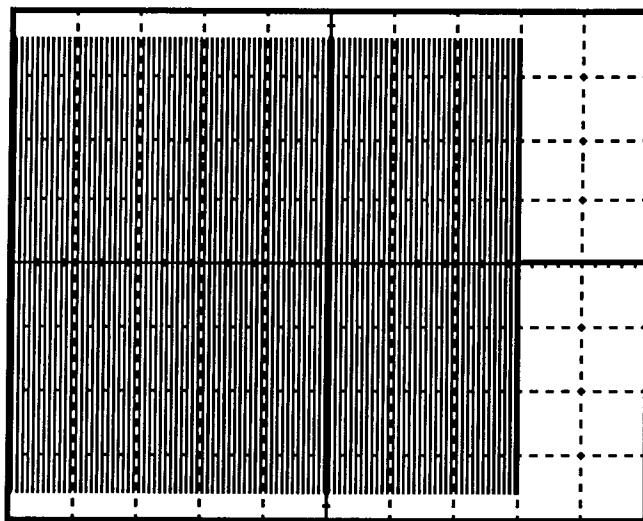

fig. 3.6
B) Connect oscilloscope across the dummy load . Set vertical deflection to 50 v/div and horizontal deflection to 0.5 sec/div. Set proper trigger. Set PERCENT ENERGY dial to 100% and push the TREAT button. The duration of the stimulus should be 4 seconds as in fig. 3.6.